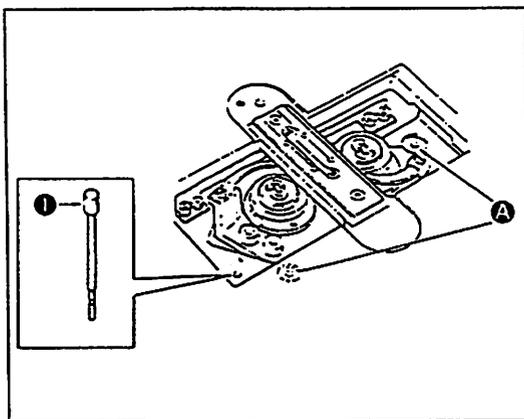

Fig. 75
Supply the lubricating oil through lubrication holes ① with the oil feeder as shown in Fig. 75.
* Confirm the amount of oil in the hook by checking hook oil gauge ①.